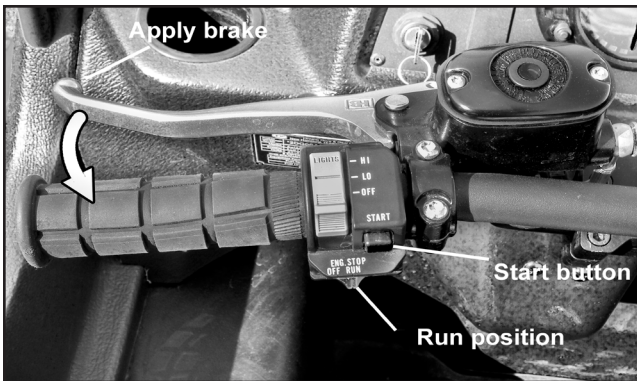

Figure 3.4 Ignition Switch.
4. Ensure red switch is in "run" position. (See figure 3.4)